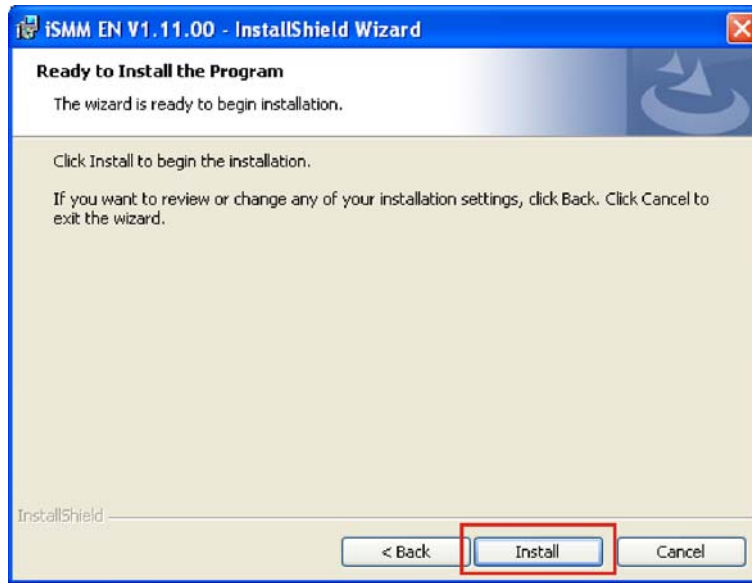

Figure 6-41: iSMM Installation Confirmation
Step 18: The Installation Confirmation screen appears. (Figure 6-41)
Step 19: Click **INSTALL** to begin installing the drivers. (Figure 6-41)